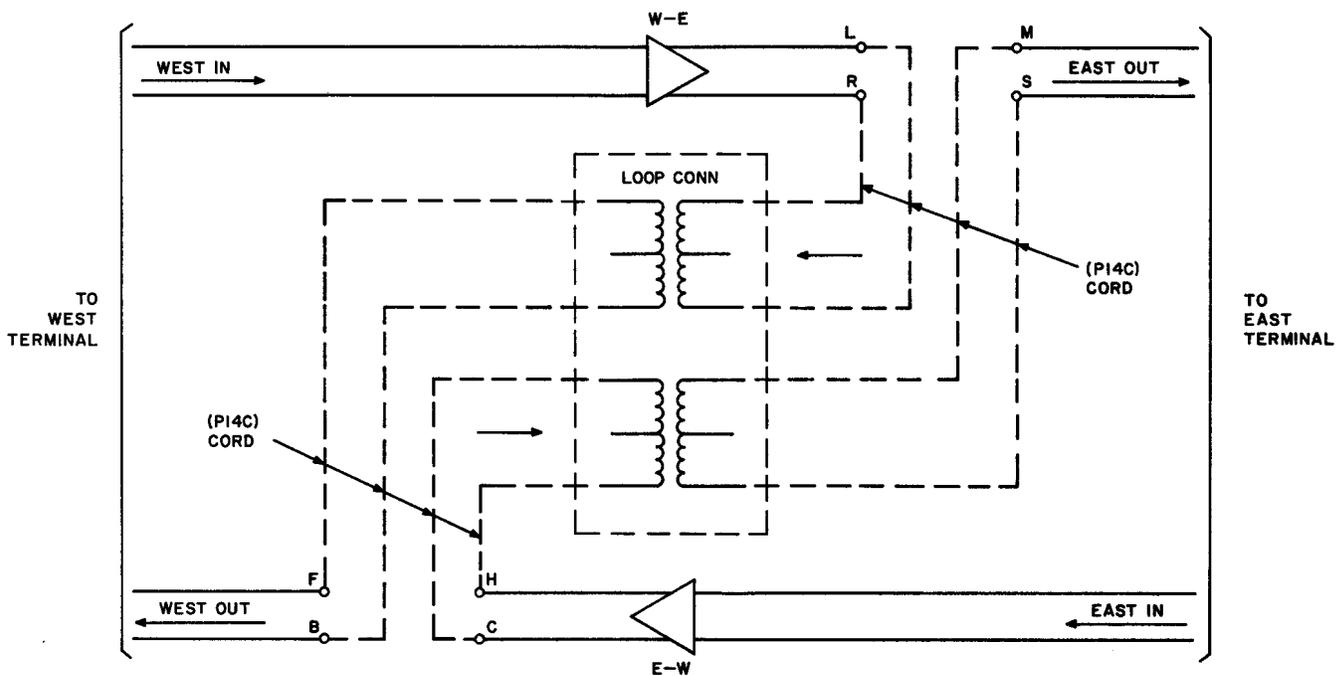

Fig. 1 — N2 Repeater Looping with Looping Connector
- 1 — Looping Connector (See Fig. 1 of Section 362-420-516)
4	Measurement of the received carrier levels at both the east and west terminals of the two loops (see Fig. 1 of this section) in conjunction with a measurement of total repeater carrier power and listening tests with the 2J test set at the output of the looped repeater for both directions of transmission, will indicate in which half section of either loop that the trouble is located. Requirement: Near-normal measurements of total repeater output carrier power and the absence of excessive noise on listening tests indicates no trouble between the looping point and the transmitting end of the loop for the direction of transmission being tested.